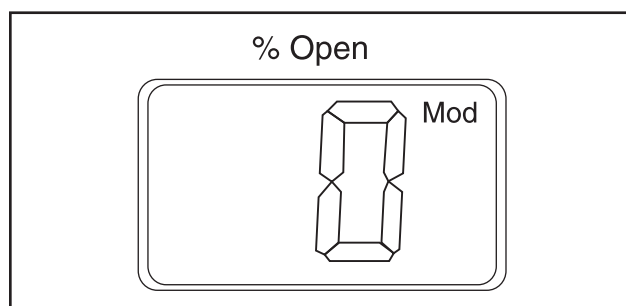

Figure 22
- To exit from the Parameter list and return to the display of Opening Degree (OD), keep the push button activated for 2 seconds.
- Display (Figure 22)
- Normally the Opening Degree (OD) 0 - 100% of the ICM valve is displayed. No activation of push buttons for 20 seconds means that the display will always show 0 (Figure 22).